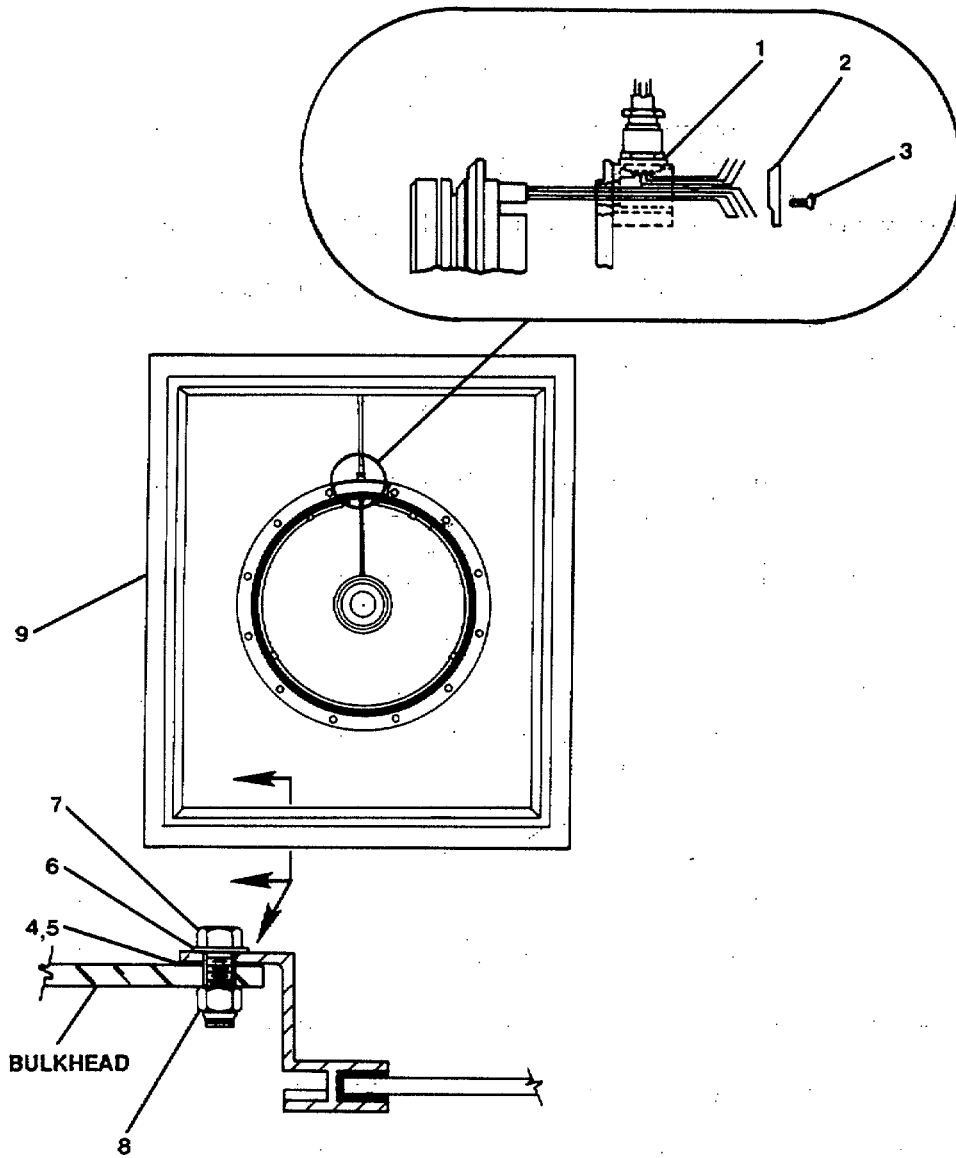

FIGURE 3-179. Replace Fixed Window, with Rotary Window.
- a. Remove screw (3, Figure 3-179) and junction box cover (2) from junction box (1).
- c. Remove self-locking nuts (8), capscrews (7), and washers (6) from window frame.
- a. Apply sealing tape (4, Figure 3-179) and sealant adhesive (5) around bulkhead opening and window frame.